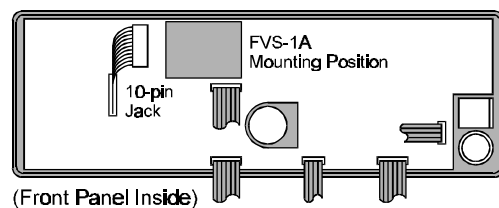

Figure 5
- ③ Inside the front panel, locate the unconnected 10-pin jack, and connect the **FVS-1A** here (see Figure 5).
- ④ Set the **J**Apanese/**E**Nglish switch on the **FVS-1A** to the desired position, and then affix the **FVS-1A** board into place using the double-sided adhesive tape on the flat surface of the **FVS-1A** IC.
- ⑤ Fold the front panel back into place, and replace the covers and carrying handle.